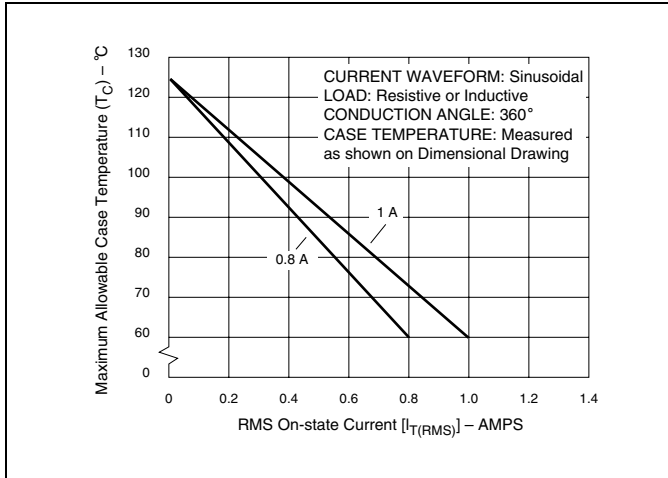
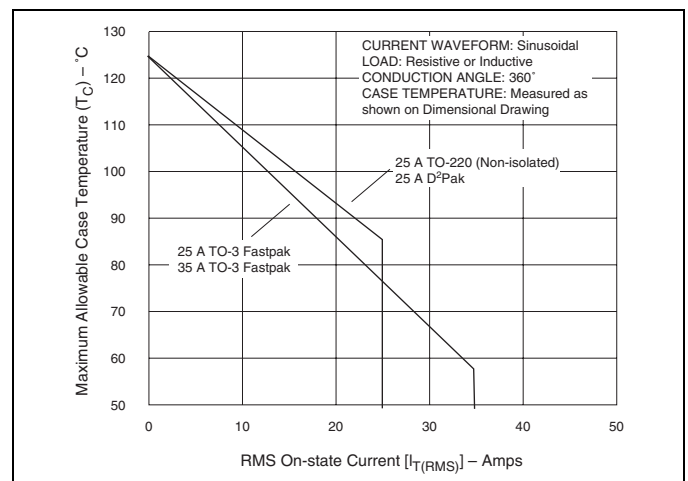
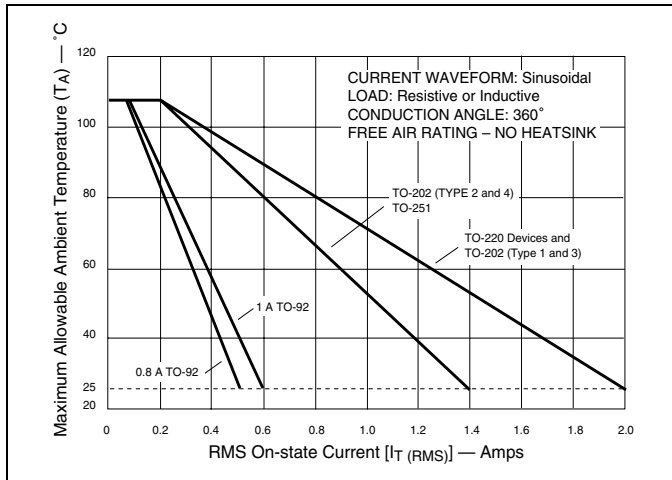
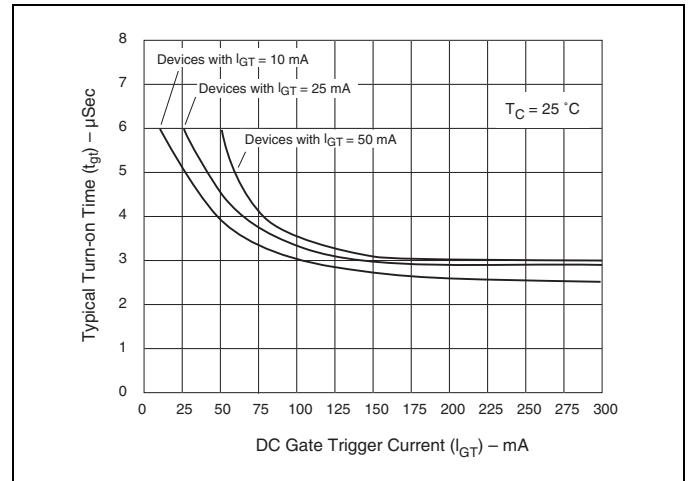

Figure E2.1 Maximum Allowable Case Temperature versus On-state Current (0.8 A and 1 A)
Figure E2.6 Maximum Allowable Case Temperature versus On-state Current (25 A and 35 A)
Figure E2.7 Maximum Allowable Ambient Temperature versus On-state Current
Figure E2.15 Turn-on Time versus Gate Trigger Current (Typical)
- (1) For either polarity of MT2 with reference to MT1 terminal
- (2) For either polarity of gate voltage (V_{GT}) with reference to MT1 terminal
- (3) See Gate Characteristics and Definition of Quadrants.
- (4) See Figure E2.1 through Figure E2.7 for current rating at specific operating temperature.
- (10) See Figure E2.15 for t_{gt} versus I_{GT} .
- (11) See package outlines for lead form configurations. When ordering special lead forming, add type number as suffix to part number.
- (12) Initial on-state current = 200 mA dc for 0.8 A to 10 A devices, 400 mA dc for 15 A to 35 A devices
- (13) See Figure E2.1 through Figure E2.6 for maximum allowable case temperature at maximum rated current.
- (14) Pulse width $\leq 10 \mu s$; $I_{GT} \leq I_{GTM}$
- (15) $R_L = 60 \Omega$ for 0.8 A to 10 A triacs; $R_L = 30 \Omega$ for 15 A to 35 A triacs
- (16) $T_C = T_J$ for test conditions in off state
- (17) $I_{GT} = 300$ mA for 25 A and 35 A devices
- (18) Quadrants I, II, III only
- (19) Minimum non-trigger V_{GT} at 125 °C is 0.2 V for all except 50 mA MAX QIV devices which are 0.2 V at 110 °C.